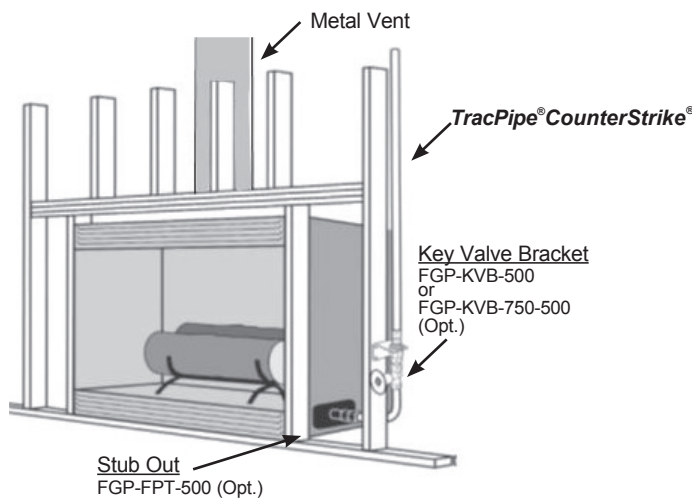

Figure: 4-40
1. *TracPipe® CounterStrike®* shall not be directly routed into a metallic gas appliance enclosure utilizing a metallic vent which penetrates a roofline. The *TracPipe® CounterStrike®* connection shall be made outside of the metallic gas appliance enclosure to a segment of rigid metallic pipe, a stub-out or a termination fitting (Figure 4-40).